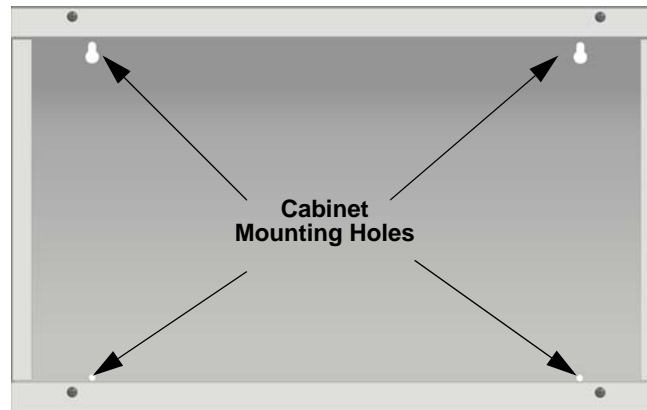

Figure 4-3 RBB or AB-55 Cabinet Mounting Holes
1. Mount the accessory cabinet. See Figure 4-3 for the four cabinet mounting holes.